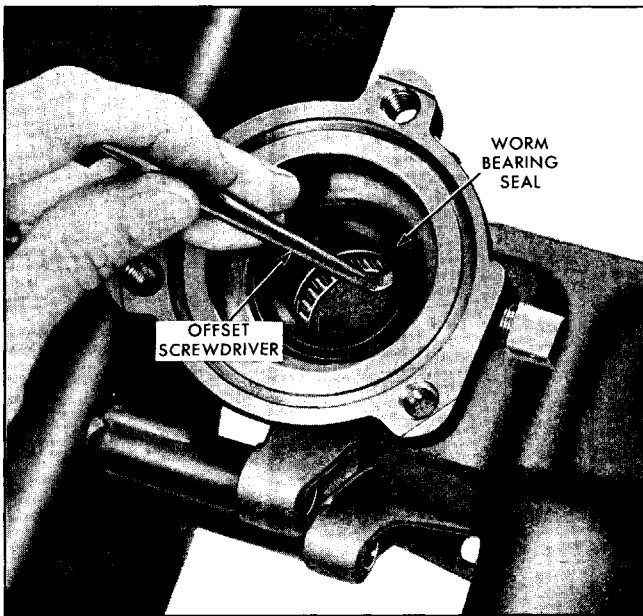

Fig. 9-37 Removing Seal From Housing Upper Flange
7. If replacement is required, remove worm bearing seal from housing upper flange with offset screwdriver (Fig. 9-37).